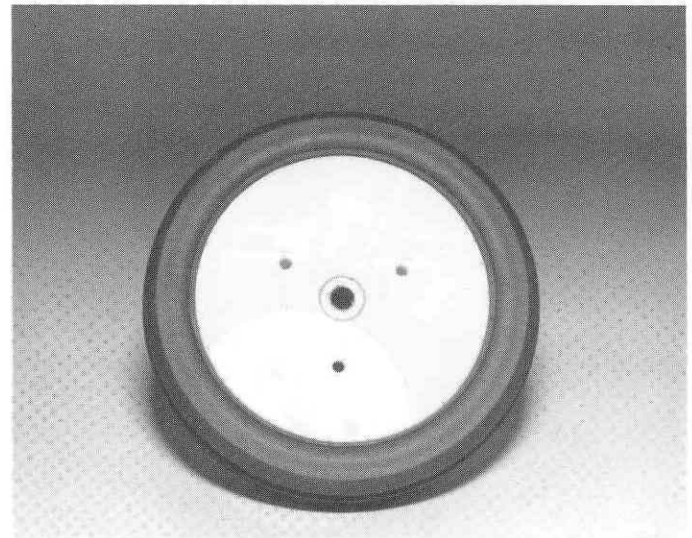

Fig. 193
□ **Fig. 193** Turn the tire over and install the inside half of the wheel. Make sure the screw holes are in line.